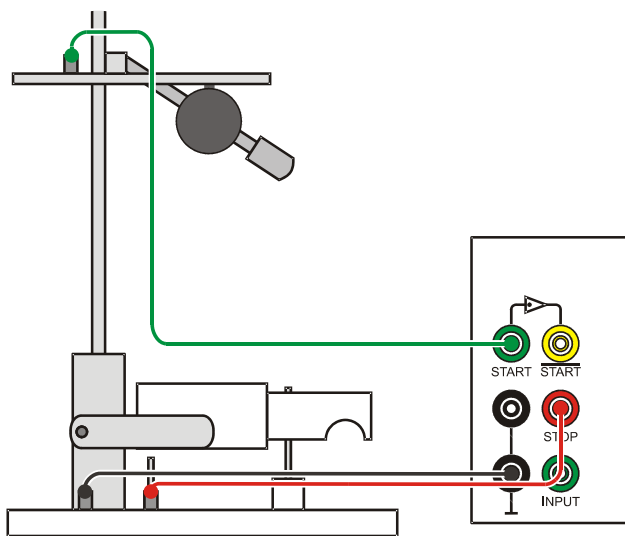

Fig. 2: Connection of the electronic counter to the apparatus
- Connect the electronic counter as shown in Fig. 2.